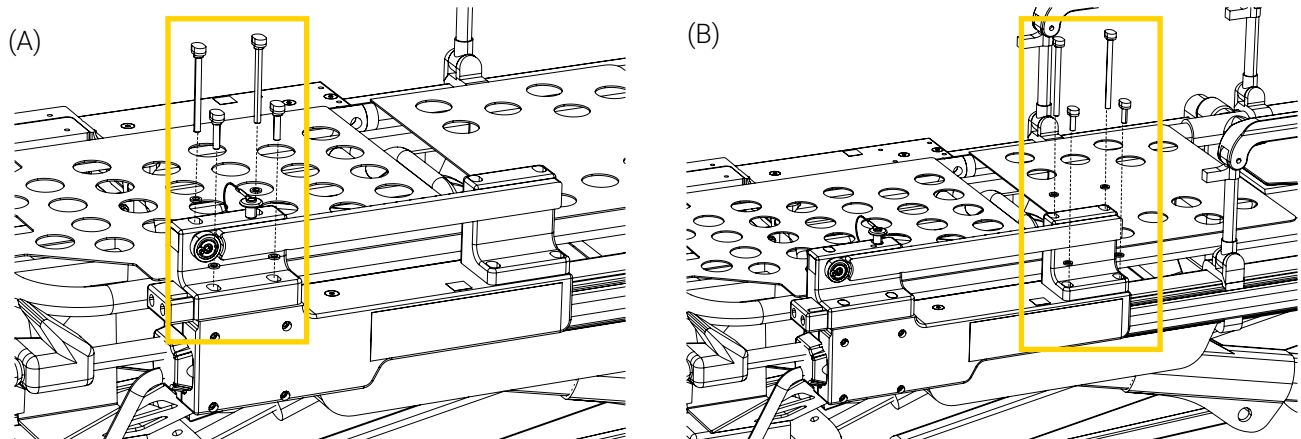

Figure 18: Installing the clamp block on the rail system
3. Partially tighten the eight (8) screws and eight (8) washers on both sides. The screws will be securely tightened in a later step.
- Towards patient foot end (Figure 18 A), use:
- Two (2) socket head screws $\frac{1}{4}$ - 20 x 3 in., two (2) washers for $\frac{1}{4}$ screws and an Allen key $\frac{3}{16}$ in.
- Two (2) socket head screws $\frac{1}{4}$ - 20 x 1 in., two (2) washers for $\frac{1}{4}$ screws and an Allen key $\frac{3}{16}$ in.
- Towards patient head end (Figure 18 B), use:
- Two (2) socket head screws $\frac{1}{4}$ - 20 x 3.5 in., two (2) washers for $\frac{1}{4}$ screws and an Allen key $\frac{3}{16}$ in.
- Two (2) socket head screws $\frac{1}{4}$ - 20 x $\frac{3}{4}$ in., two (2) washers for $\frac{1}{4}$ screws and an Allen key $\frac{3}{16}$ in.